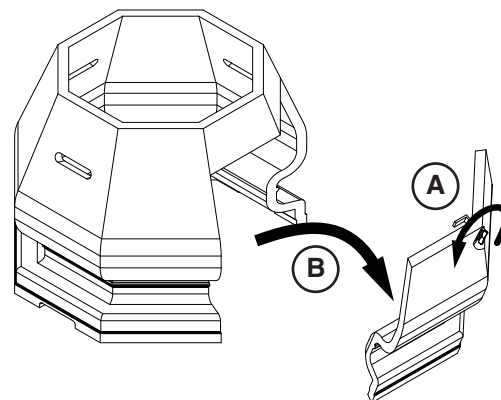

Fig. 17-2 Three-piece models: remove door
2. Remove the storage door by first turning the door handle counter-clockwise, then carefully pulling the door outward (see Fig. 17-2). Store in a safe location.